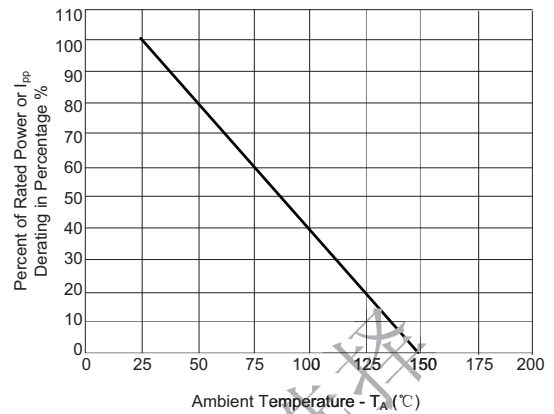
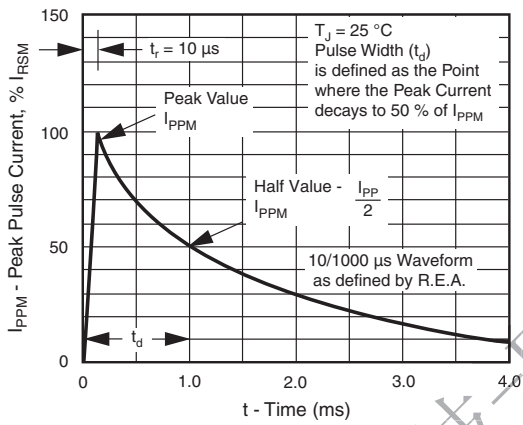

Figure 2. Pulse Power or Current vs. Initial Junction Temperature
Figure 3. Pulse Waveform
(1) Non-repetitive current pulse, per Fig. 3 and derated above  $T_A = 25\text{ }^\circ\text{C}$  per Fig. 2
(2) Measured on 8.3 ms single half sine-wave or equivalent square wave, duty cycle = 4 pulses per minute maximum